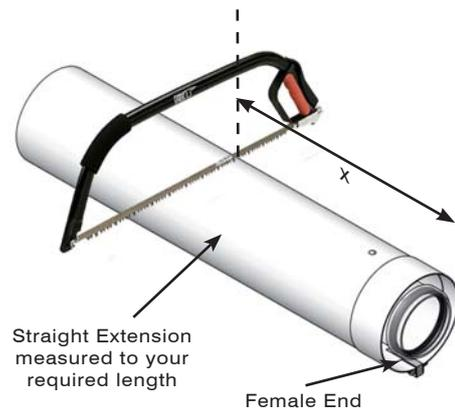

Fig. 2
- 1.5 Cut the flue extensions to the desired length measuring from the female end. Fig 2. Make sure the ends are square and free from burrs.